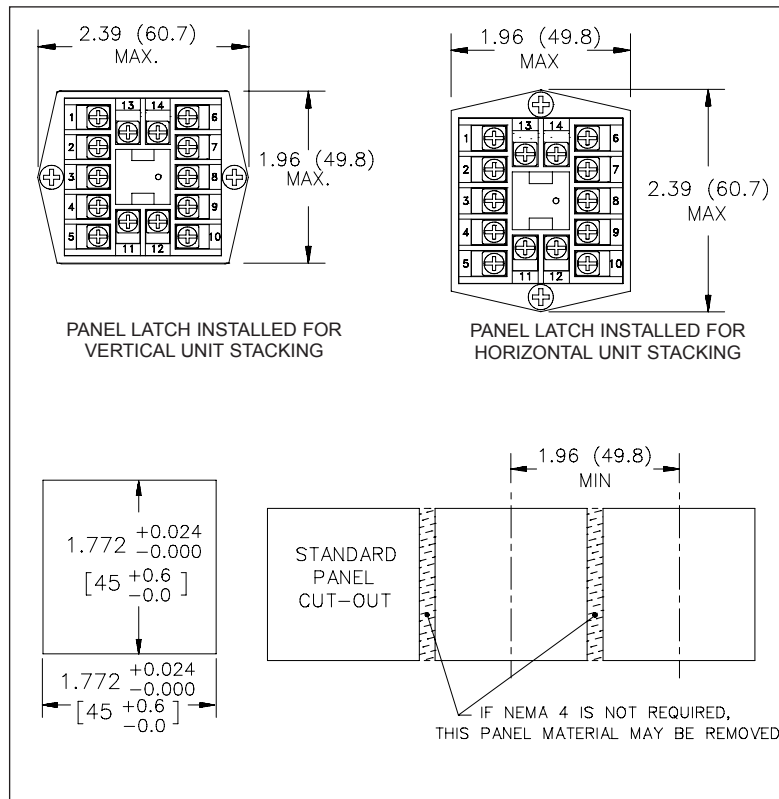

Figure 3, Multiple Unit Stacking
1. Prepare the panel cutout to the dimensions shown in Figure 3, Multiple Unit Stacking.